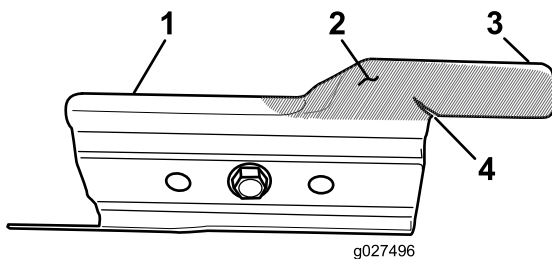

Figure 28
Carefully examine the accelerator for excessive wear (Figure 28). Because sand and abrasive material can wear away the metal (especially in the area shown as item 2 in Figure 28), check the accelerator before using the machine. If you notice that a tab on the accelerator has been worn down to a sharp edge or there is a crack, replace the accelerator; refer to Removing the Blade (page 22).